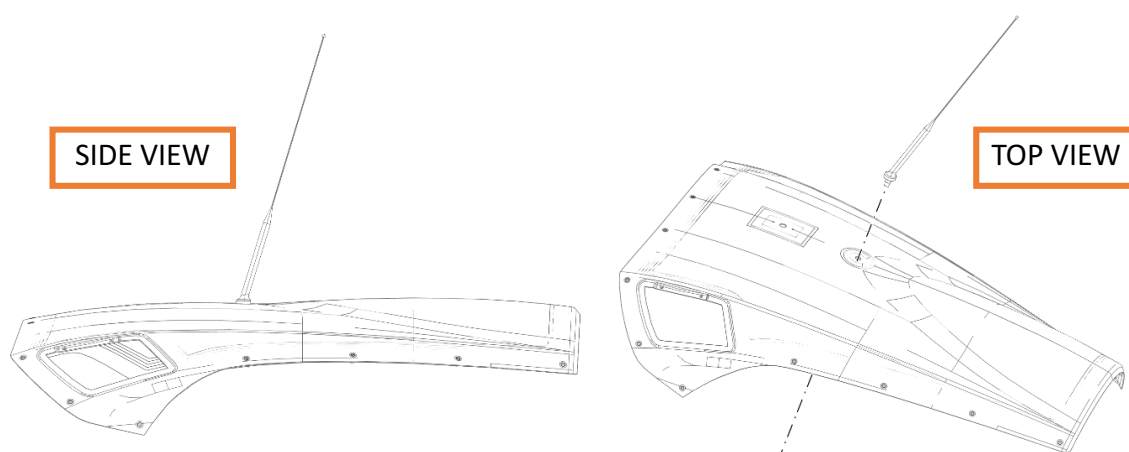

FIGURE 13-19
- b. Orient the four ground wires 90° from one another as shown. (See Figure 13-19.)